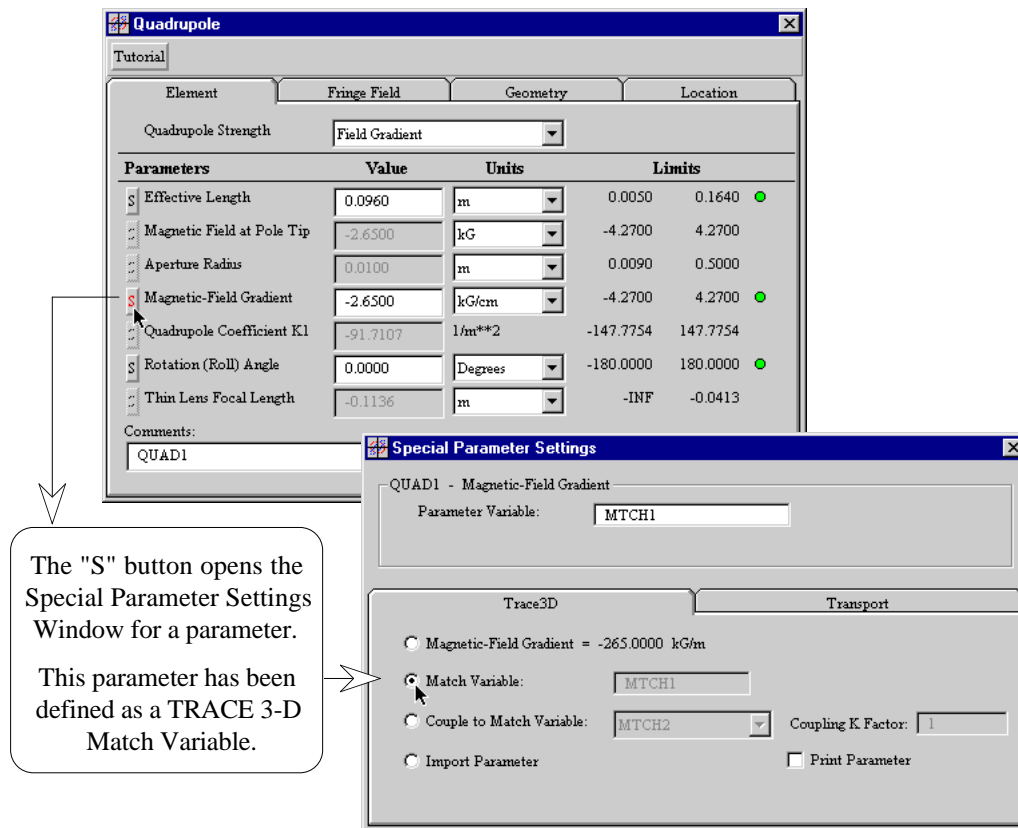

Figure 26 Special Parameter Settings Window.
Beamline element parameters are selected as matching TRACE 3-D (MP) or coupling (MVC) variables in a Special Parameter Settings windows described previously. This is illustrated in Figure 26 with a Quadrupole Piece Window. In this example the “S” button is pressed for the Magnetic Field Gradient parameter. This opens the Special Parameter Settings window (S-Window). The S-Window is a PBO Lab window with application specific tab panels. The number of tab panels depends on the number of installed applications. Only the TRACE 3-D Special Parameter Setting are described here.